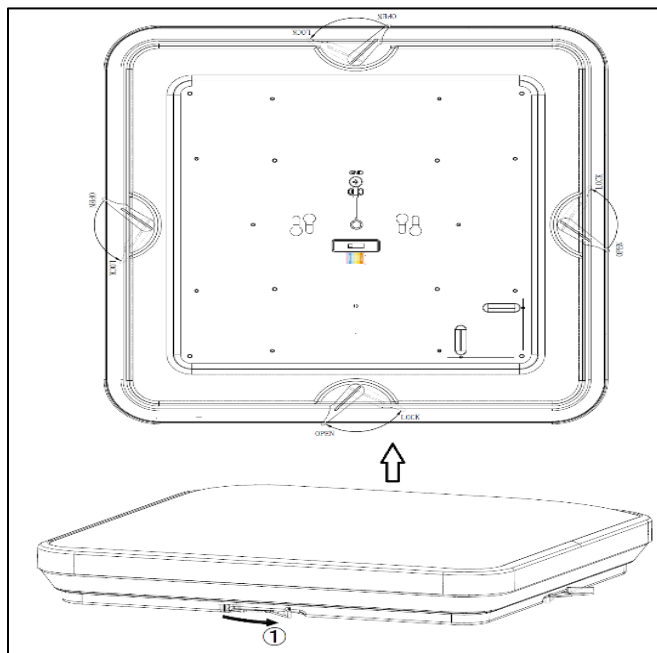

Figure 4
4. From a flat surface, remove diffuser (4) by rotating all 4 clips (7) to the OPEN position, then remove diffuser from the housing assembly (2) by lifting it upward. (See Figure 4)